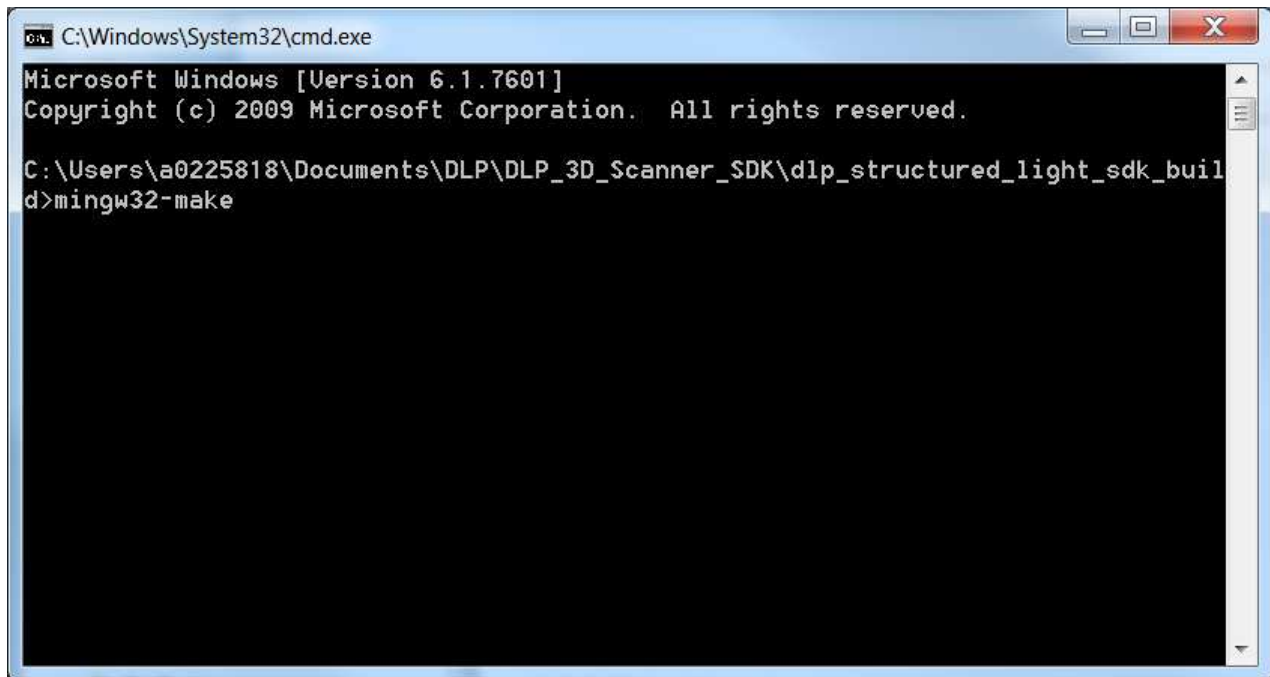
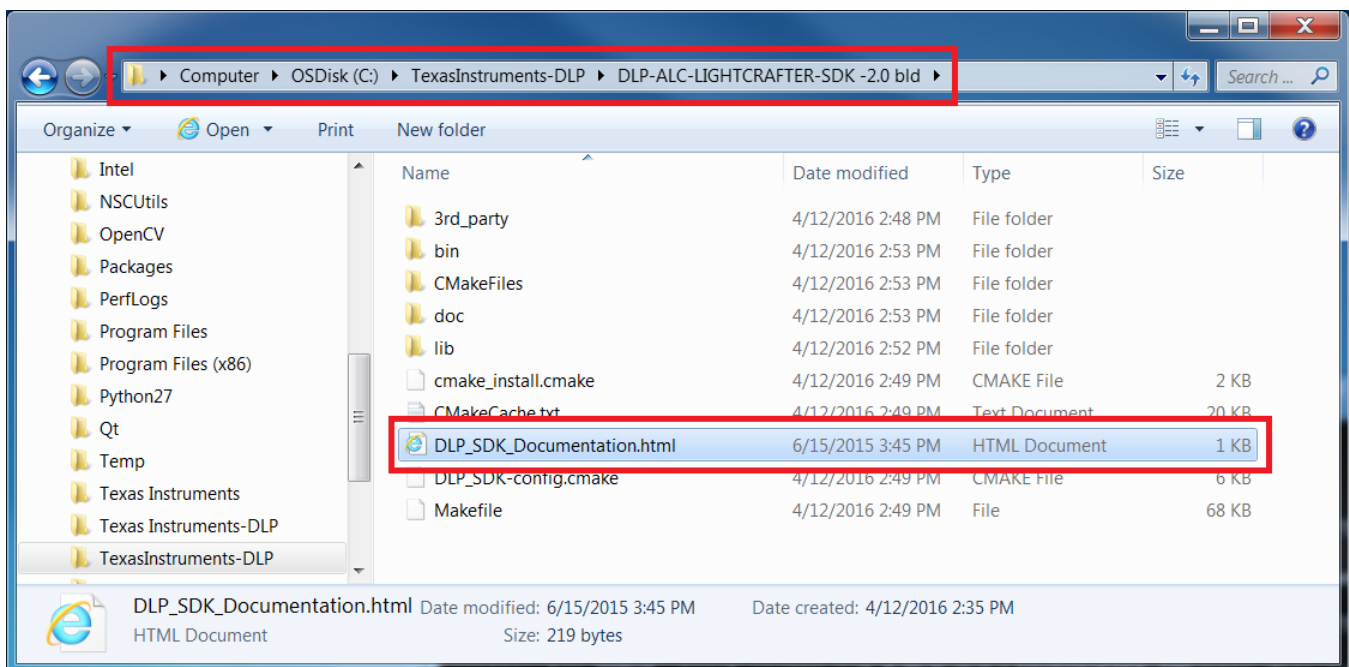
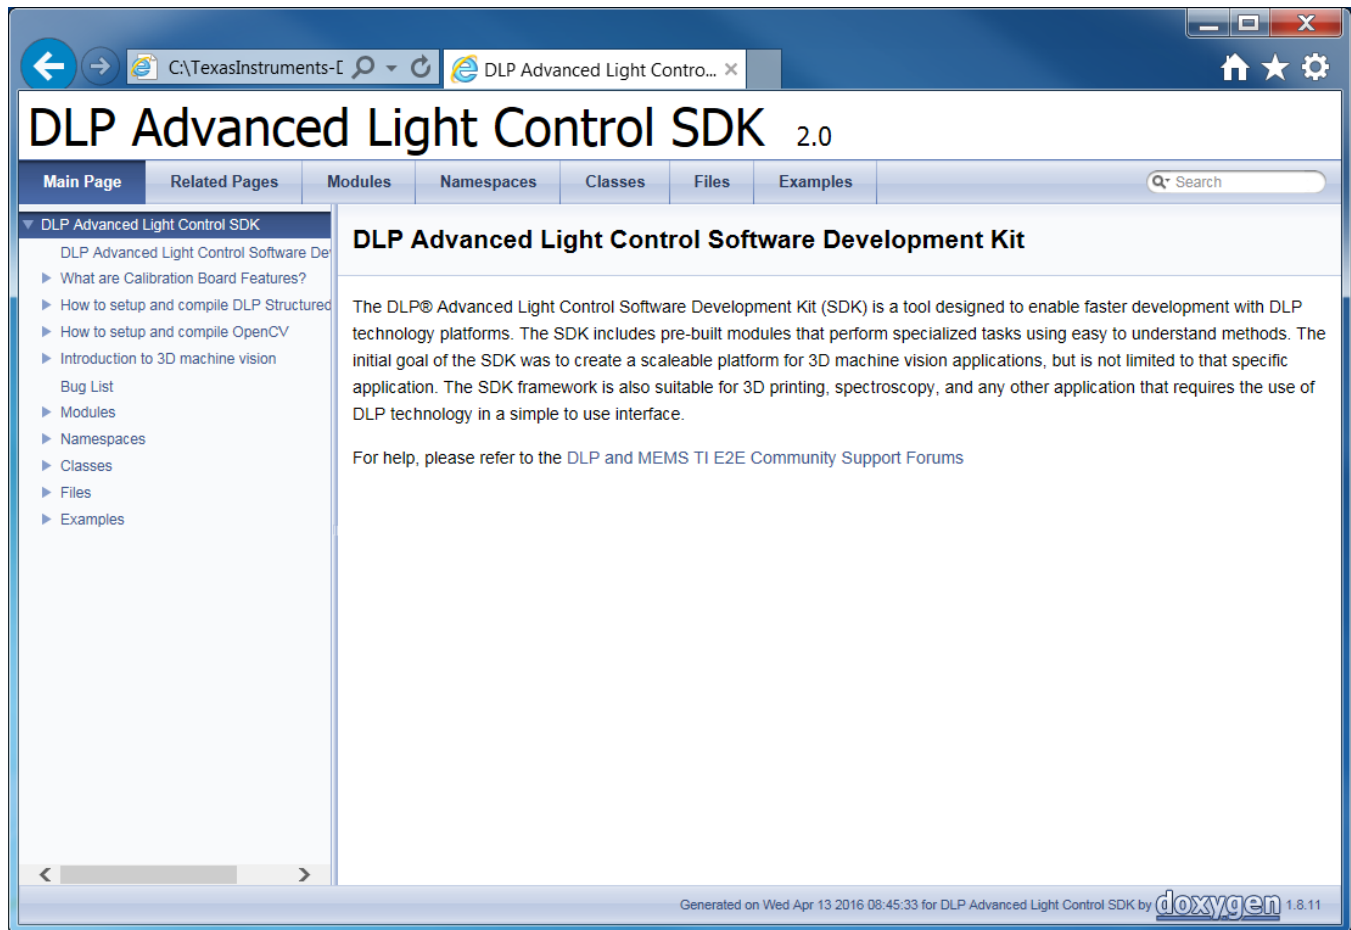

Figure 50. DLP ALC SDK Make
Figure 51. DLP ALC SDK Documentation Location
Figure 52. DLP ALC SDK Documentation Home Page
7. Type the command "mingw32-make" as shown in Figure 50.
9. To build the documentation for the DLP ALC SDK, in the same command line as Figure 50, type the command "mingw32-make doc". This will utilize Doxygen to create easy to use HTML documentation. Click on the HTML file indicated in Figure 51 to open the top level documentation file (an example path is C:\TexasInstruments-DLP\DLP-ALC-LIGHTCRAFTER-SDK-2.0_bld). Figure 52 shows the welcome page for the compiled documentation.